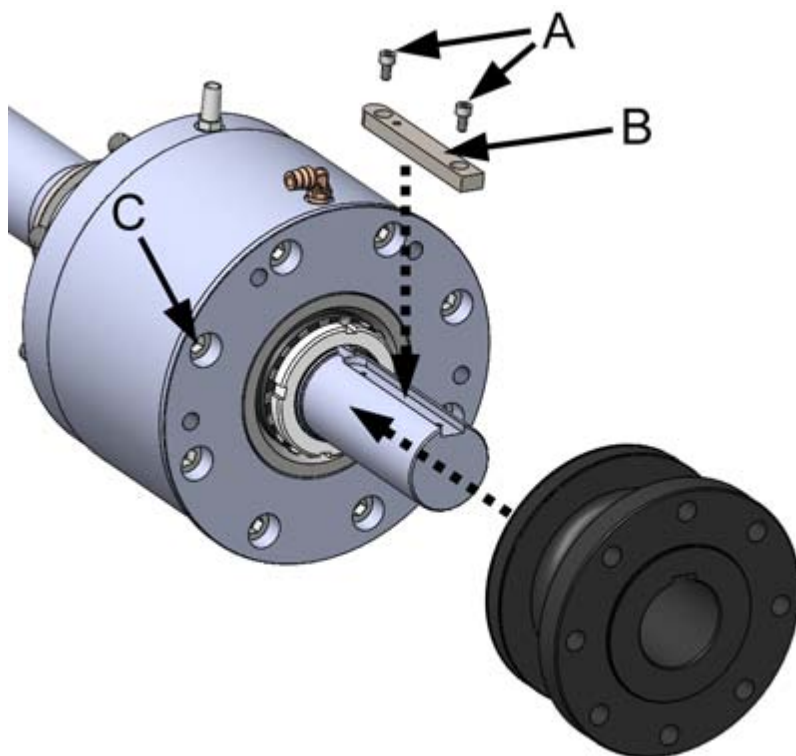

Figure 17. Installing the coupling flange
6. Place the bearing housing fastening screws (8 pcs, figure 17, point C) in the holes and install the coupling flange.
- 6.1. Place the parallel key in the key seat (figure 17, point B) and tighten its fastening screws (figure 17, point A, 2 pcs).